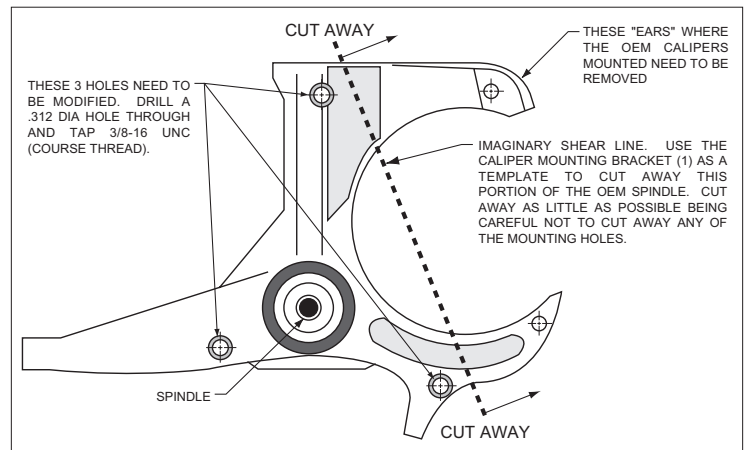

Figure 2. Typical Steering Arm / Spindle Modifications (your spindle may vary in looks from diagram)
- The following spindle modifications should be performed by a qualified machinist. Refer to Figure 2 as necessary. Only one view of the steering arm/spindle is shown, but the modifications need to be performed on both steering arm/spindles.